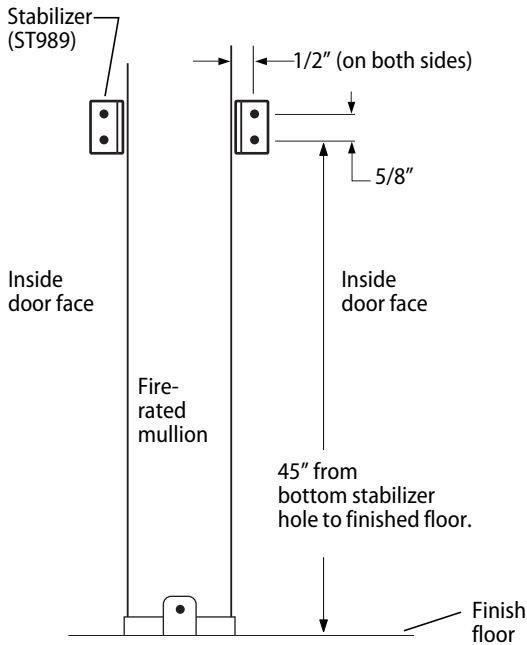

Figure 15 Installing stabilizers on FL mullions only
- 1 Mark the holes for the stabilizers as shown in Figure 15.